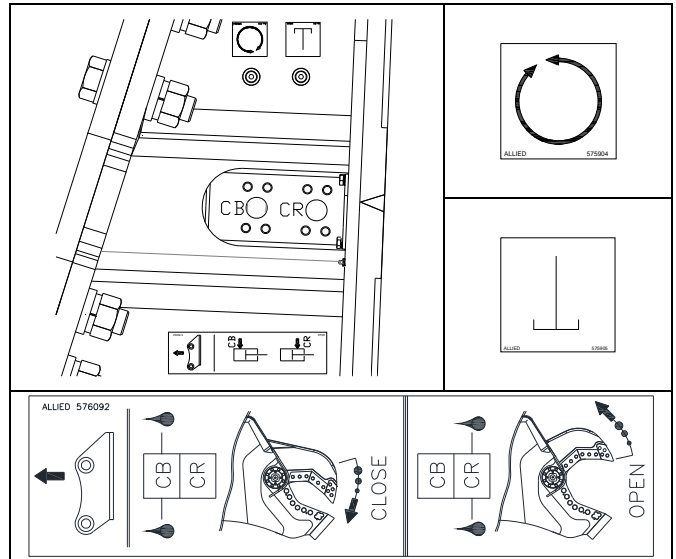

Fig 6-3 Hydraulic Connections Located At Subhead
3. Connect the hoses to the rotation motor (Fig. 6-3, Item 8) and restrain the shear so it cannot rotate.